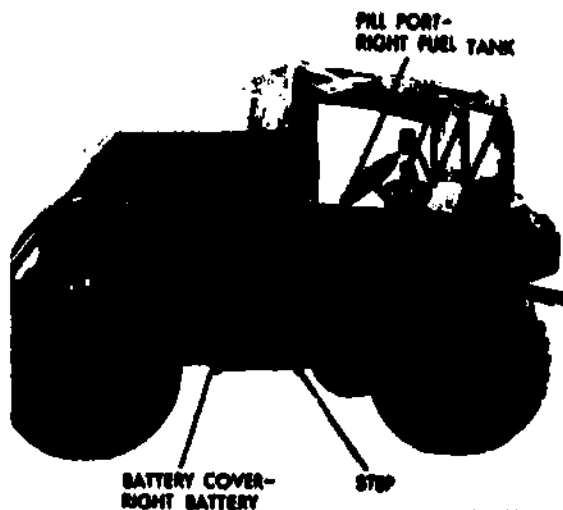
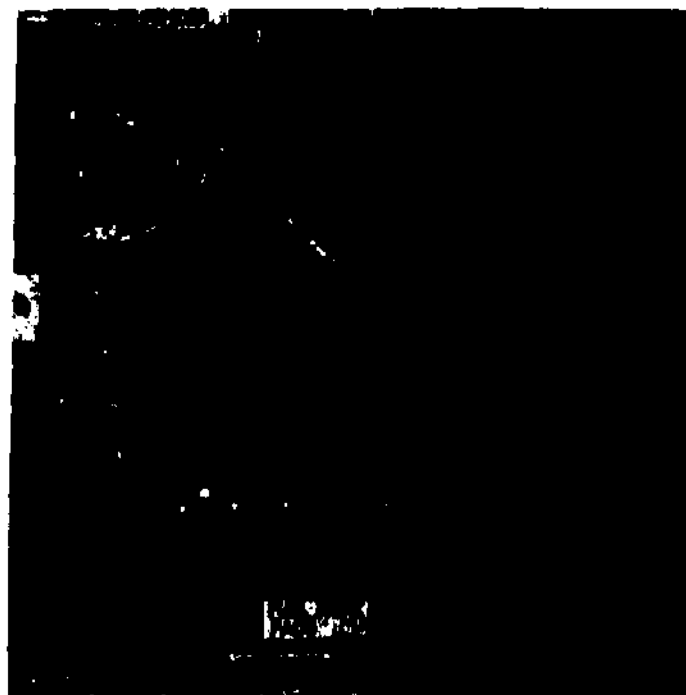

Fig 2-114. Fuel tank.
Fig 2-115. Fuel tank pads used to prevent wear.
a. Tank. Let's start with the tank (fig 2-114) and its support brackets. Visually inspect for dents and creases in the tank. The support brackets should have some type of padding (fig 2-115) which prevents metal-to-metal contact between the tank and the support brackets. If padding is missing, there won't be any cushioning effect, and the movement of the vehicle could cause a puncture in the tank. Support straps and brackets must be tight. Record any defects noted on your weekly form for supervisory action.